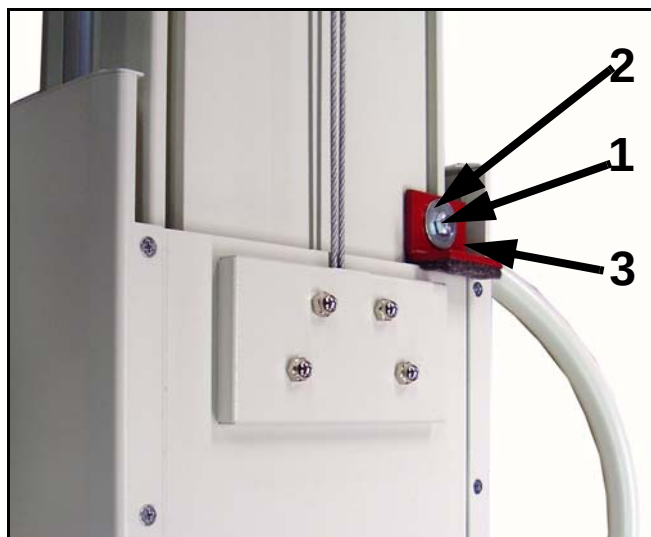

Figure 2-13. Vertical carriage locking bolt/bracket
- 22** Unscrew bracket screw (1 in Figure 2-13) and remove washer (2) and shipping bracket (3).